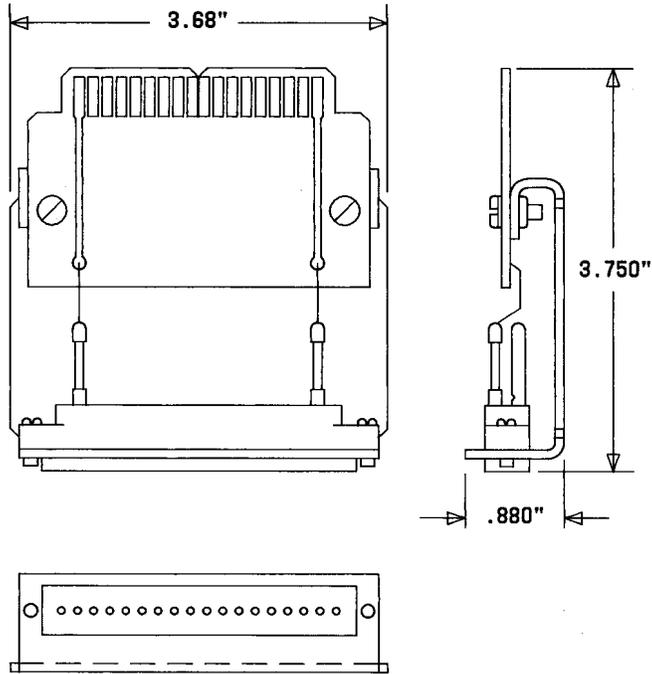

Fig. 2—19A Extender Tool
2.08 19A: The 19A extender tool (Fig. 2) is used to extend the 172A regulator in the J86834B ringing and tone plant for zone 16 extended zone ringing. Two extenders are required per regulator. This extender consists of a printed wiring board assembly and a KS-21244, L1, connector attached to a bracket assembly.